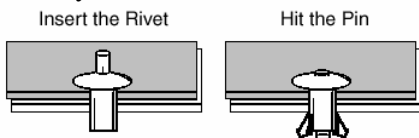

Figure -1
7. Install Poly Last cover using included hammer rivets and remove bolts used to temporarily secure cover. NOTE: See Figure-1 for hammer rivet explanation.